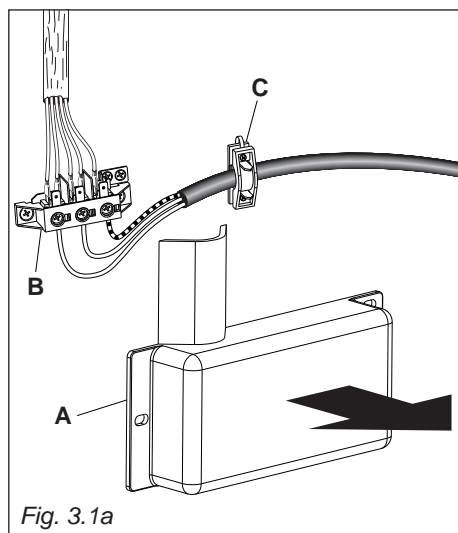

Fig. 3.1a
- Remove the screws securing the cover “A” on the rear of the cooker (fig. 3.1a).
- Feed the supply cable through the cable clamp “C” (fig. 3.1a). The supply cable must be of a suitable size for the current requirements of the appliance; see the section “Feeder cable specifications”.